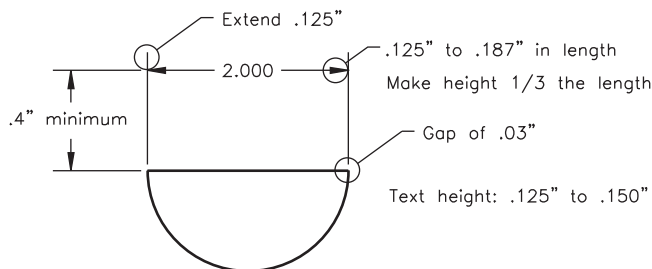

Fig. 27-2
**Linear dimensions** are those with horizontal, vertical, or aligned dimension lines. A **dimension line** is the part of the dimension that typically contains arrowheads at each of its ends, as shown in Fig. 27-2.